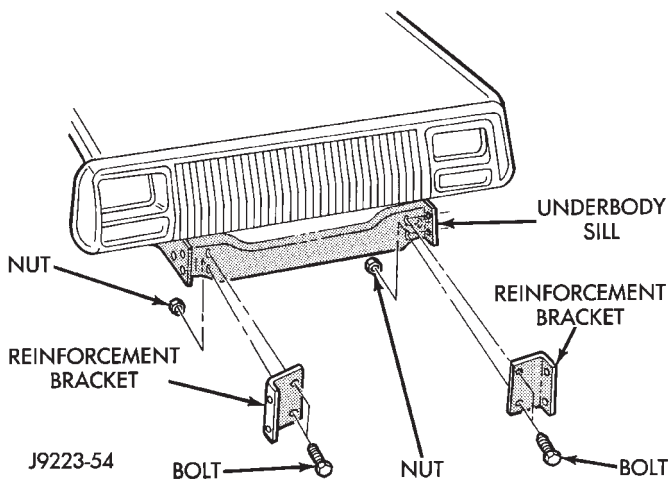

Fig. 11 Reinforcement Brackets
- (1) If removed, install the sill crossmember reinforcement brackets on the sillmembers (Fig. 11). Tighten bolts to 56 N·m (41 ft-lbs) torque.
- (2) If equipped, install the bumper support brack-